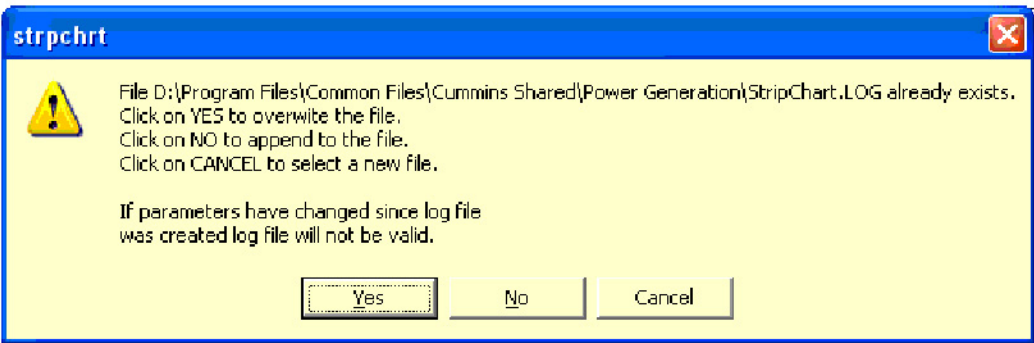

FIGURE 96. LOGGING MESSAGE
**Options-Logging Enabled:** This option is used to enable the logging option to save a file at the location set up with the Logging dialog. If a strip chart log has already been created, the message shown in Figure 96 is displayed.